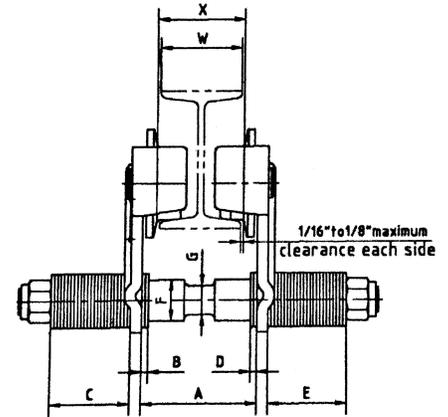

Figure 3 - Side Plate Spacing Illustration
- The hoisting mechanism must be on the centerline of the hoist trolley. Place equal numbers of the approximately 1/8" thick and 1/16" thick washers on each side of the hanger shaft to obtain the "A" dimension (See Figure 3) between side plates.
- Check "A" dimension (See Figure 3)